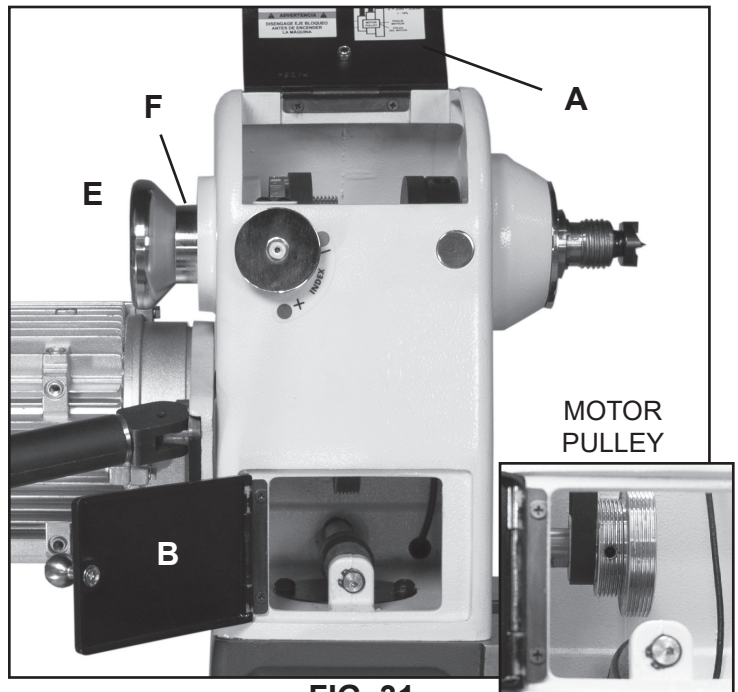

FIG. 31
2. Open the 2 Belt Doors to gain access to the belt and pulleys that are inside of the headstock. FIG. 31, A & B.